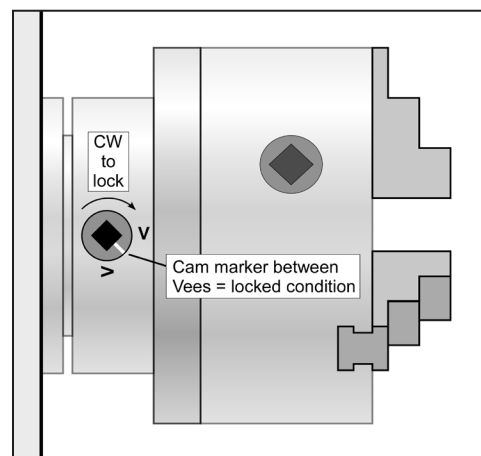

Figure 3-9 Cam in locked condition
4. Check that each of the cam markers lies between 3 and 6 o'clock, between the two Vees stamped on the spindle, Figure 3-9.